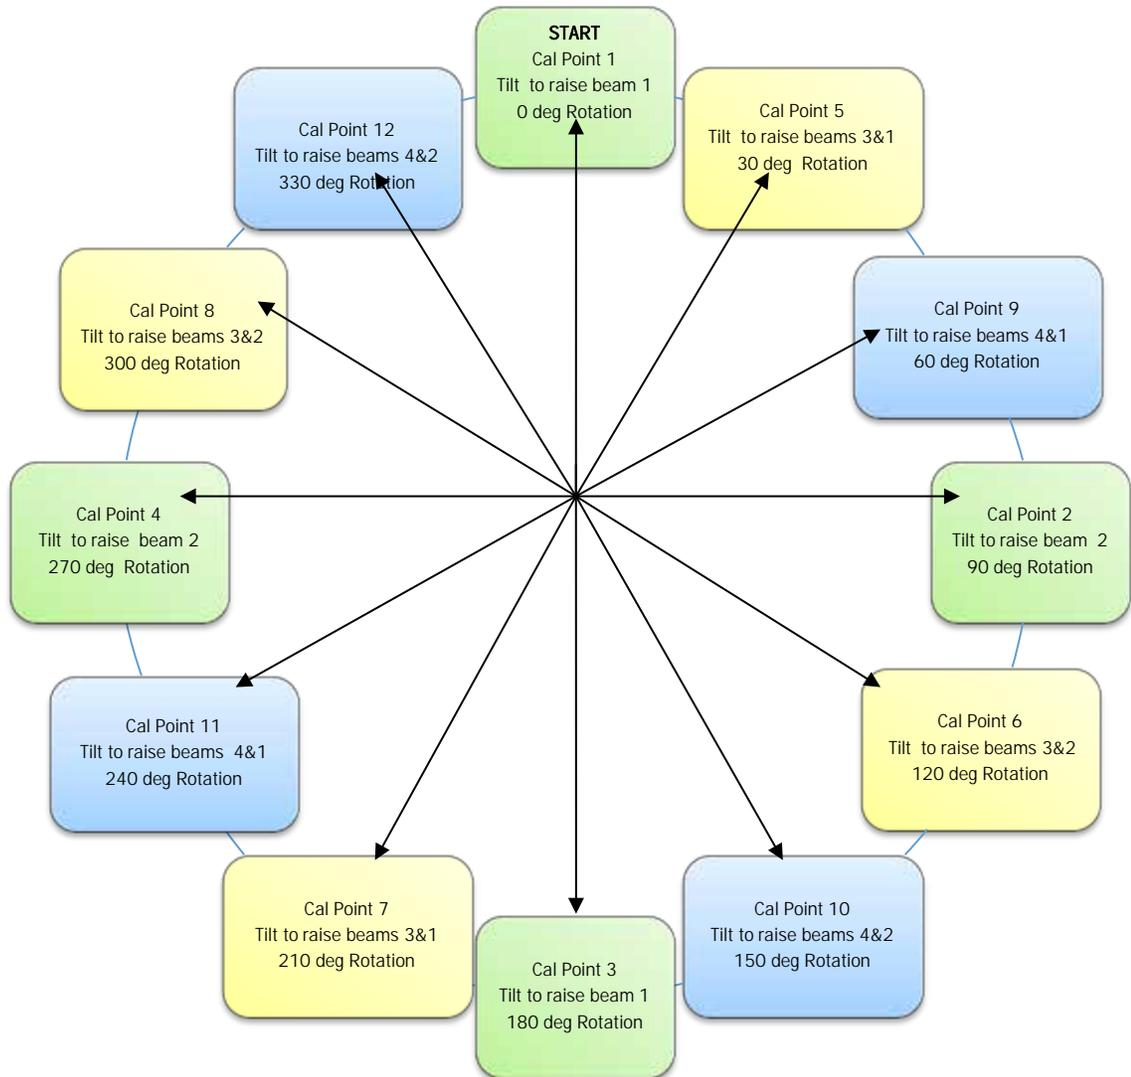

Figure 46. Optional Compass Calibration Overview
4. Start with beam 3 pointed toward any direction. This will be the reference direction for the calibration, called **Start** (see Figure 46).
The compass calibration screen prompts and Figure 46 will not match.